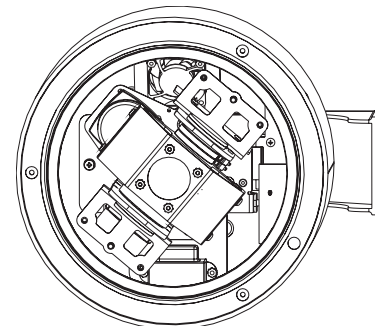

Figure 10
4. Tighten the panel fastener with a long Phillips screwdriver (Figure 10).